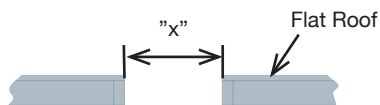
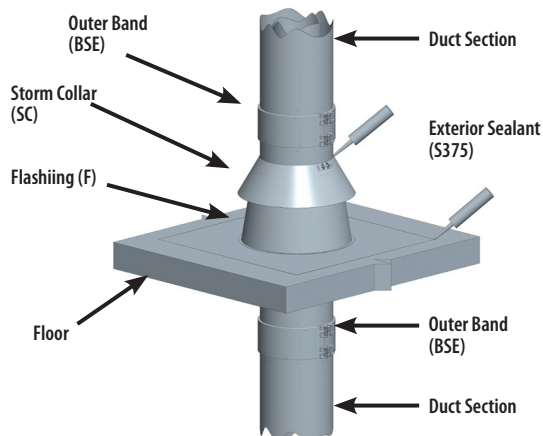

Figure 65a - Minimum Opening for flat roof
Figure 66 - Installation of Flashing- View Top of the Roof
1. Cut opening to dimensions specified in **Table 9, 10 & 11**. See **Figure 65a** for flat roof and **Figure 66** for a sloped roof.
5. The Storm Collar (SC) is placed around the chimney and sealed to the casing with outer joint sealant S-350. See **Figure 66** for an installed Flashing (F)